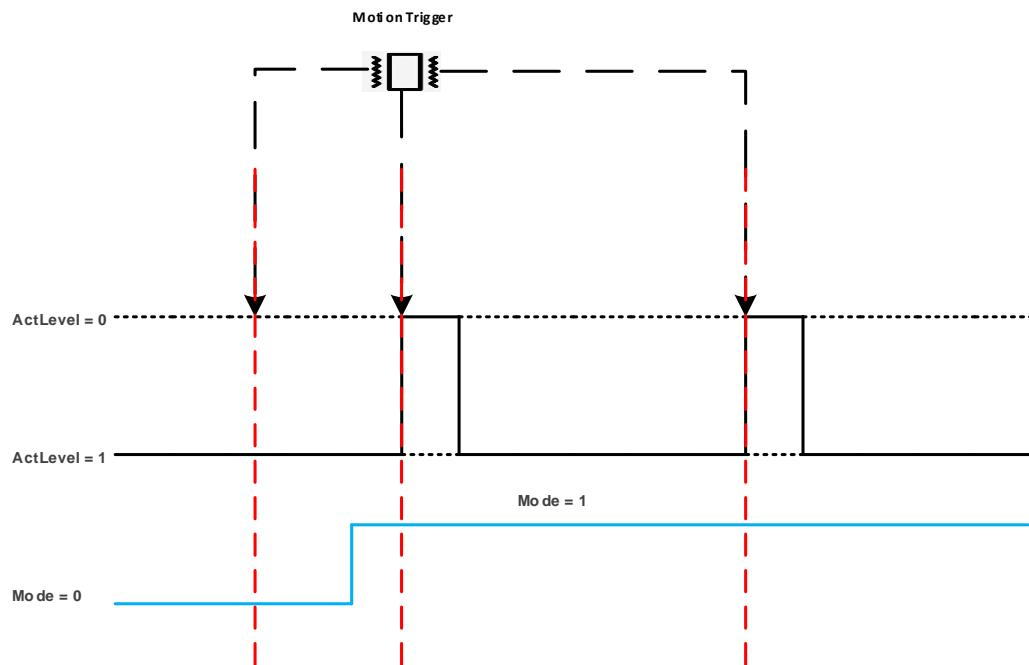

Figure 12: Motion Trigger
**Step 4:** When the module detects motion and the IMU value exceeds the set threshold, the module's WI pin (pin 17) will output an active level, as shown in Figure 12: Motion Trigger.